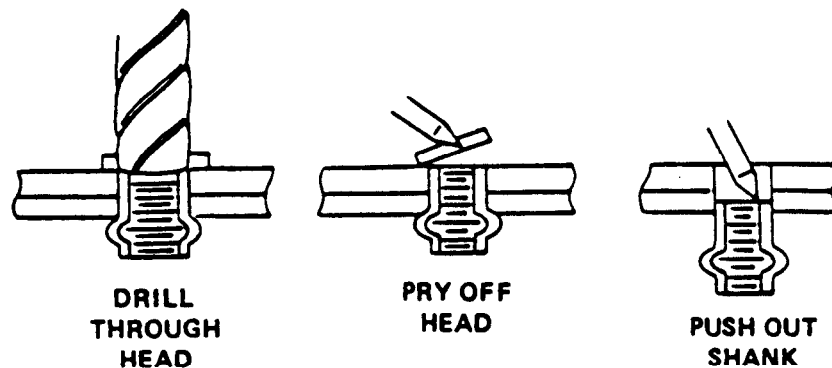

Figure 3-10. Removing Rivnuts.
3-9. General Repair Procedures (cont).**(2) Removal (Figure 3-10)****WARNING**